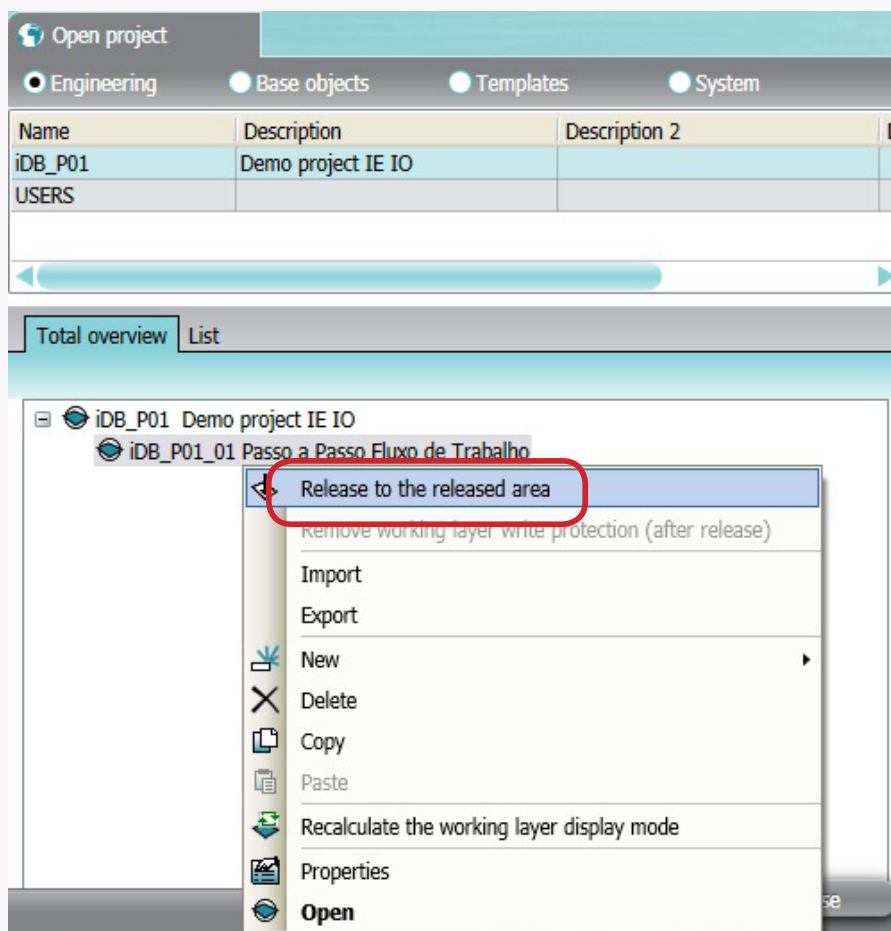

Figure 37 - Working layer release
- Select the option: **Release to the released area (Figure 37)**;